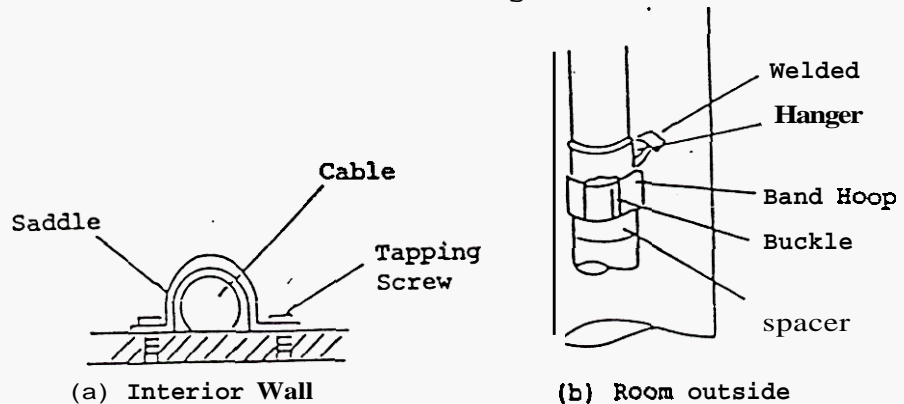

Fig. 5-17 Fastening Cable to Bulkhead or Structural Member
4. Exposed cable must closely follow surfaces of the ship's structural members or bulkheads and be secured at about 40 cm intervals by approved saddles as illustrated in Fig. 5-17 (a) and (b).